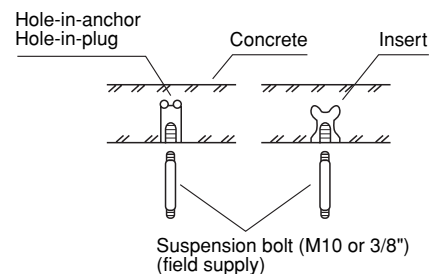
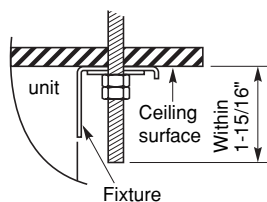

Fig. 3-92
Fig. 3-94
- (2) Drill holes at the 4 points indicated on the full-scale diagram.
- (3) Depending on the ceiling type:
- a) Insert suspension bolts as shown in Fig. 3-92.
- (4) Screw in the suspension bolts, allowing them to protrude from the ceiling as shown in Figs. 3-92 and 3-93. The distance of each exposed bolt must be of equal length within 1-15/16". (Fig. 3-94)